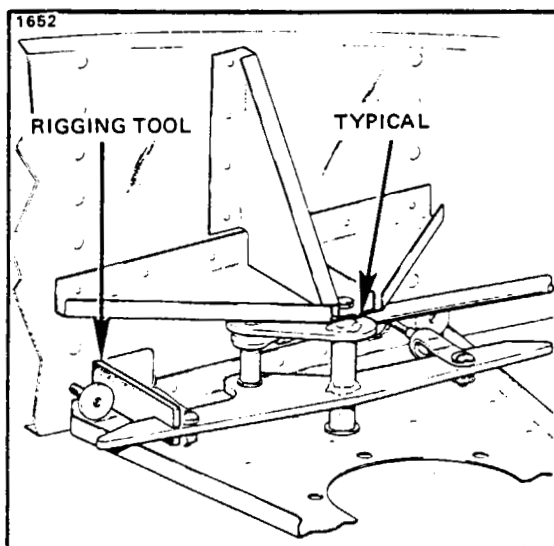

Figure 5-3. Bellcrank Rigging Tool
2. Affix a bellcrank rigging tool, as shown in Figure 5-3 between the forward arm of each bellcrank and the adjacent rib. The slotted end of the tool fits on the arm forward of and adjacent to the primary control cable end. The other end of the tool is positioned so that the side of the tool contacts the aft side of the bellcrank stop. The bellcrank must be moved to allow a snug fit of the tool between the bellcrank arm and rib. To do so, it may be necessary to loosen a primary control cable or the balance cable. (This tool may be fabricated from dimensions given in Figure 5-18.) Neutral position of the bellcrank may also be found by locating the center of the balance cable attachment bolt or the hole in the aft arm of the bellcrank three inches from the face of the adjacent rib.